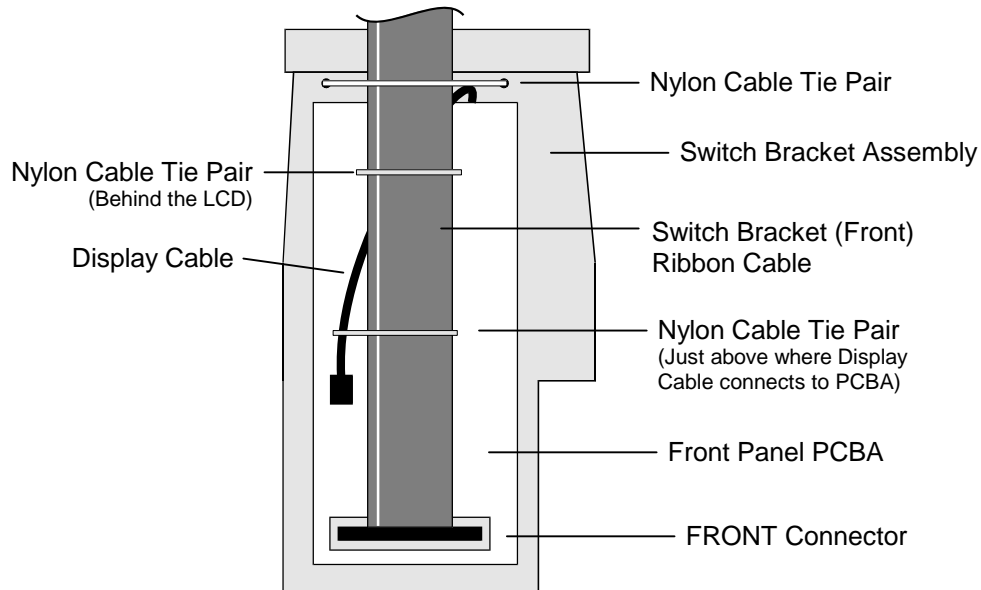

Figure 7-27 Switch Bracket Assembly (Rear View)
6. Clip the Nylon Cable Ties (3 pairs of ties) mounted around the ribbon cable (Figure 7-27), then remove them completely.
7. Unplug the ribbon cable from the FRONT connector on the Front Panel PCBA (Figure 7-27).
1. Plug the Switch Bracket Ribbon Cable into the FRONT connector on the Front Panel PCBA (Figure 7-27). Make sure that the cable is not twisted, and that the colored stripe aligns with the right side of the TLS. Press the connector in firmly, until both locking tabs on the FRONT connector close over the Switch Bracket Ribbon Cable's connector.
2. Insert a Nylon Cable Tie in through both holes in the Switch Bracket Assembly, just above the LCD (Figure 7-27).
3. Position a second Nylon Cable Tie over the Switch Bracket Ribbon Cable, then attach it to both ends of the Nylon Cable Tie in the Switch Bracket Assembly (Figure 7-27).
6. Starting behind the LCD, position one Nylon Cable Tie behind the Switch Bracket Ribbon Cable and the Display Cable, then position a second Nylon Cable Tie over the both cables, and attach the cable ties to each other (Figure 7-27).
9. Starting above where the Display Cable connects to the PCBA, position one Nylon Cable Tie behind the Switch Bracket Ribbon Cable and the Display Cable. Next position a second Nylon Cable Tie over the both cables, and attach the cable ties to each other (Figure 7-27).